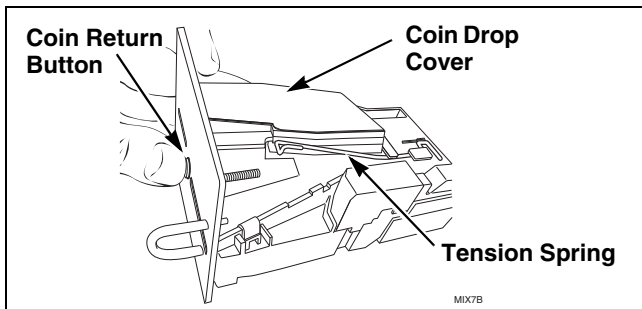
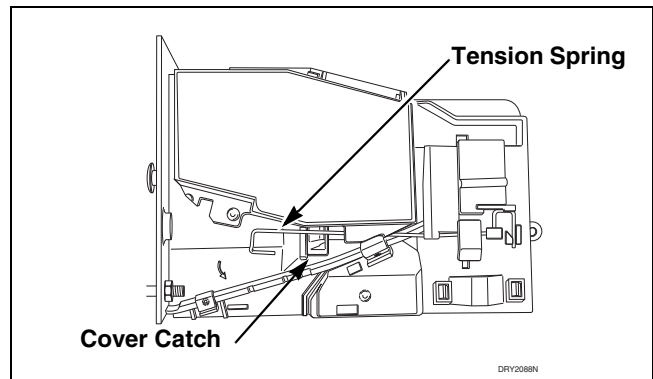
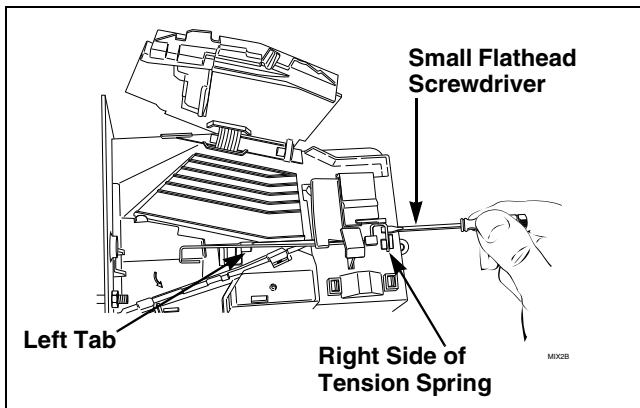

Figure 2
Figure 4
Figure 5
- (1) Clean coin drop. Refer to *Paragraph 40*.
- (2) On electronic coin drops with an old-style tension spring (shown in *Figure 2* and *Figure 4*), test and replace tension spring using the following instructions.
- (1) Push coin return button to open and close coin drop cover to clear possible coin jams. Refer to *Figure 2*.
- (1) Move tension spring downward until cover catch is free. Refer to *Figure 4*.
- (3) Place a small flathead screwdriver under right side of tension spring and lift up. Refer to *Figure 5*.
- (4) Use screwdriver to move spring approximately 3 mm to left.
(5) Lift spring over left tab. Refer to *Figure 5*.
- (13) Lift spring gently to place in position under left tab.
- (14) Push spring to right until it snaps into position. Refer to *Figure 5*.
- (15) Close coin drop cover.
- (16) Move tension spring over cover catch. Refer to *Figure 4*.